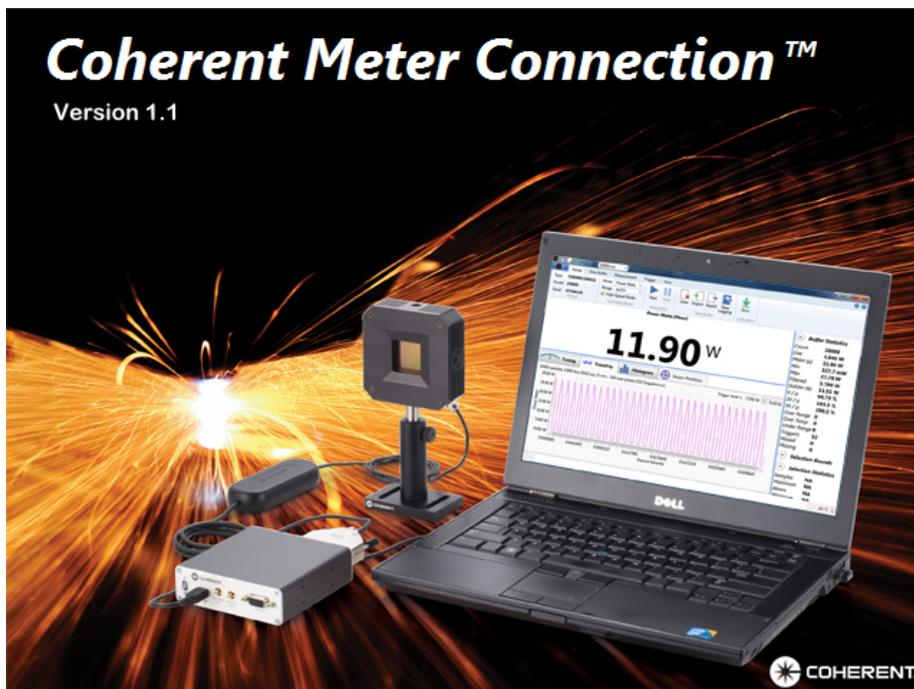

Figure 1-14. Splash Screen on Launch
10. Double click the icon to launch the Coherent Meter Connection software. A splash screen is displayed, as shown in Figure 1-14: